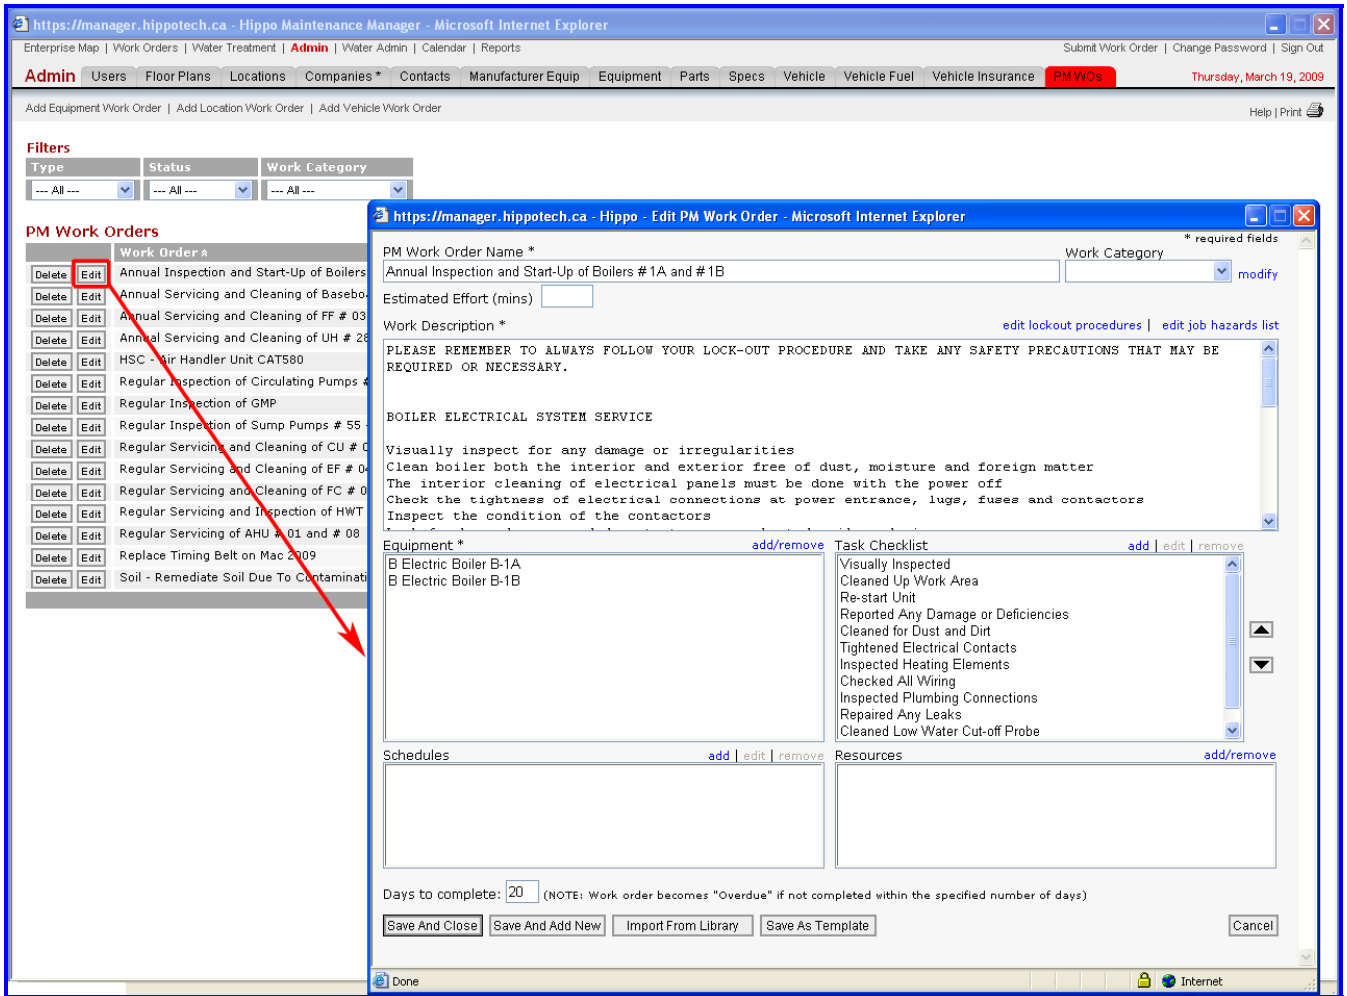

Figure 65: Edit PM Vehicle Work Order
2. Click the **Edit** button beside the vehicle PM work order you want to edit to bring up the Edit PM Work Order window (See Figure 65).